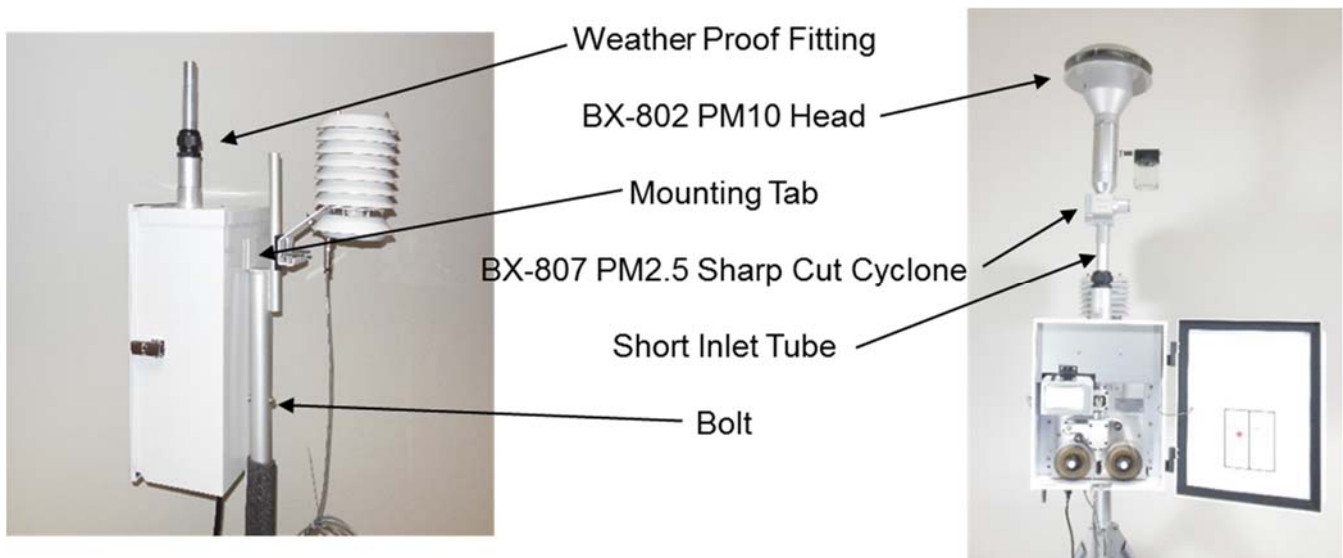

Figure 2-2 Tripod Mounting of the E-BAM
2. **Install the E-BAM onto the tripod:** Lift the E-BAM assembly and slide the slot on the back of the E-BAM over the tab on the top of the tripod. Insert the supplied $\frac{1}{4}$ - 20 bolt through the tab on the bottom of the E-BAM and through the hole in the body of the tripod (see Figure 2-2). Secure it with the supplied washers and nut. This prevents the E-BAM from shifting on the tripod.
3. **Install the inlet components:** Loosen the weatherproof fitting on top of the E-BAM and insert the short inlet tube into the top of the unit. The tube must go through the fitting and through two O-rings in the top of the E-BAM. *Make sure the tube is fully seated by rotating it back and forth.* Tighten the weatherproof fitting to secure the inlet tube. For PM₁₀ monitoring, install the BX-802 PM₁₀ inlet directly onto the top of the short inlet tube. *If a BX- 807 cyclone is to be used for PM_{2.5} monitoring, it must be installed under the PM₁₀ head as shown in Figure 2-2.* Lubricate the O-rings as necessary.